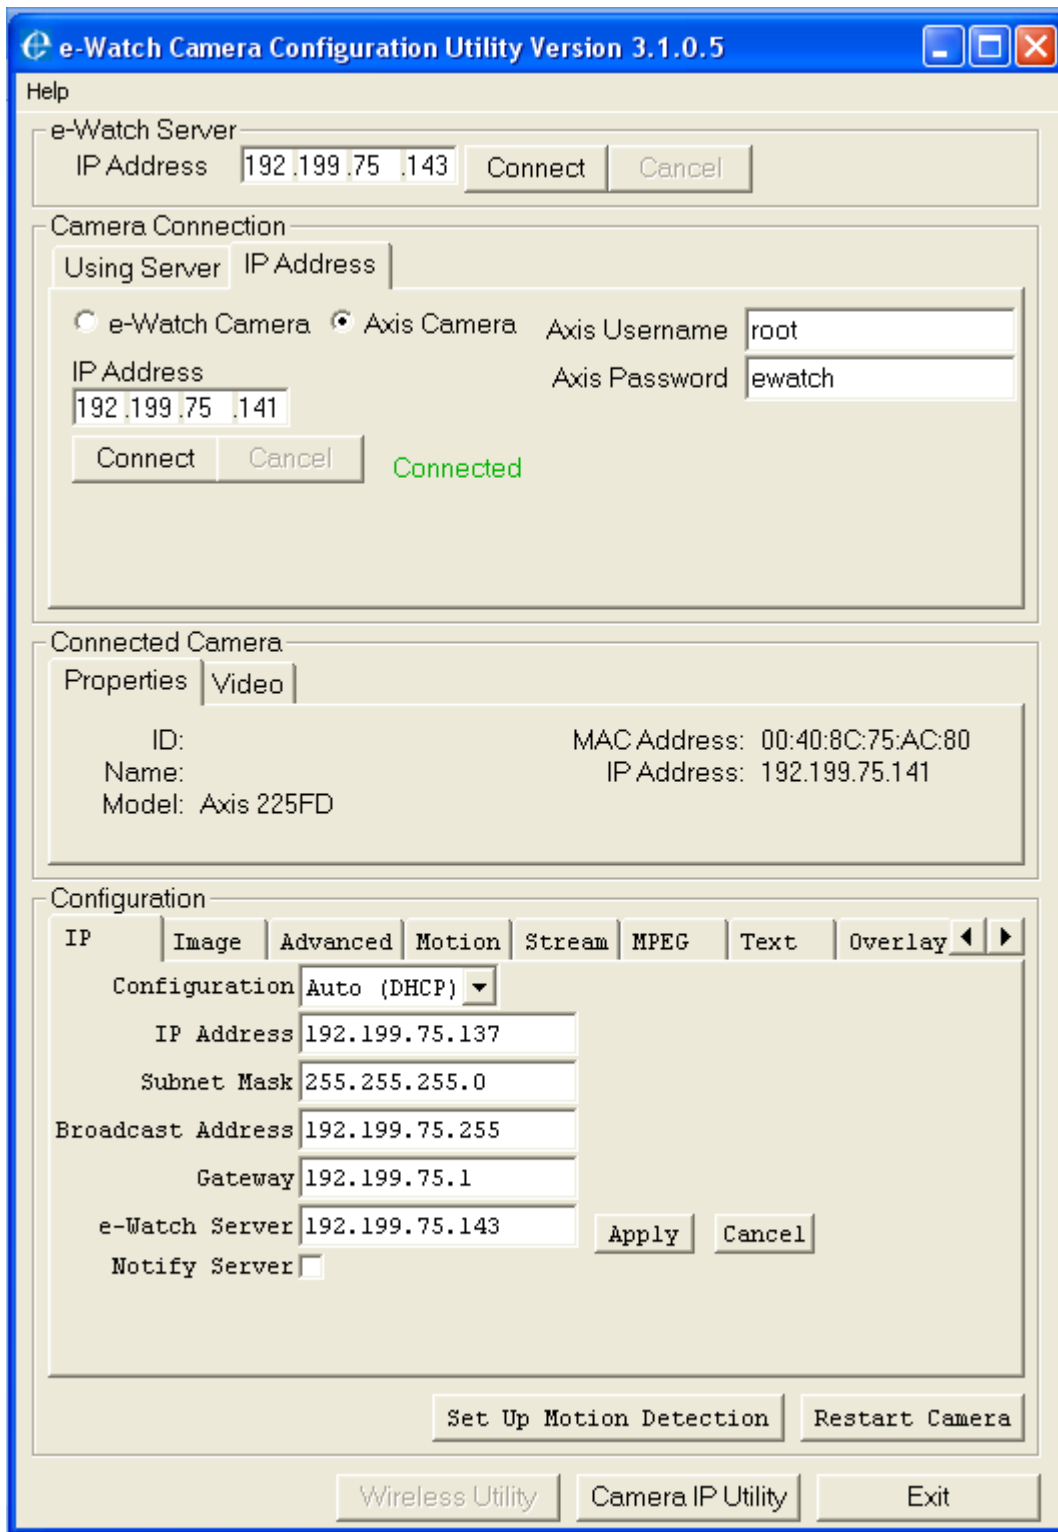

Figure 4-7. Motion Detection Using The Camera Configuration Utility
You can also set up motion detection using the e-Watch Camera Configuration Utility. See Figure 4-7.
- Figure 4-7. Motion Detection Using The Camera Configuration Utility 17